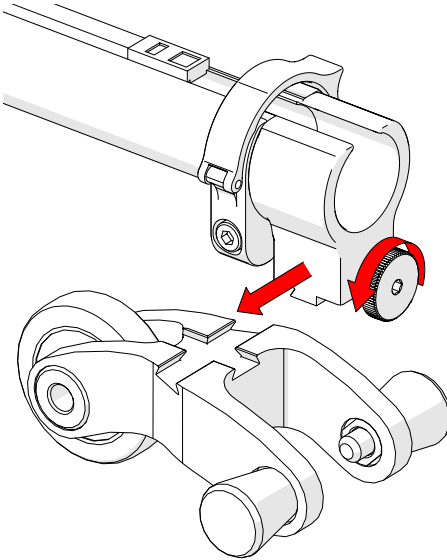

Fig. 78 - Loosen and slide on
1. Loosen the knob on the cable management dovetail mount. Slide the mount onto the dovetail link (*Fig. 78*).